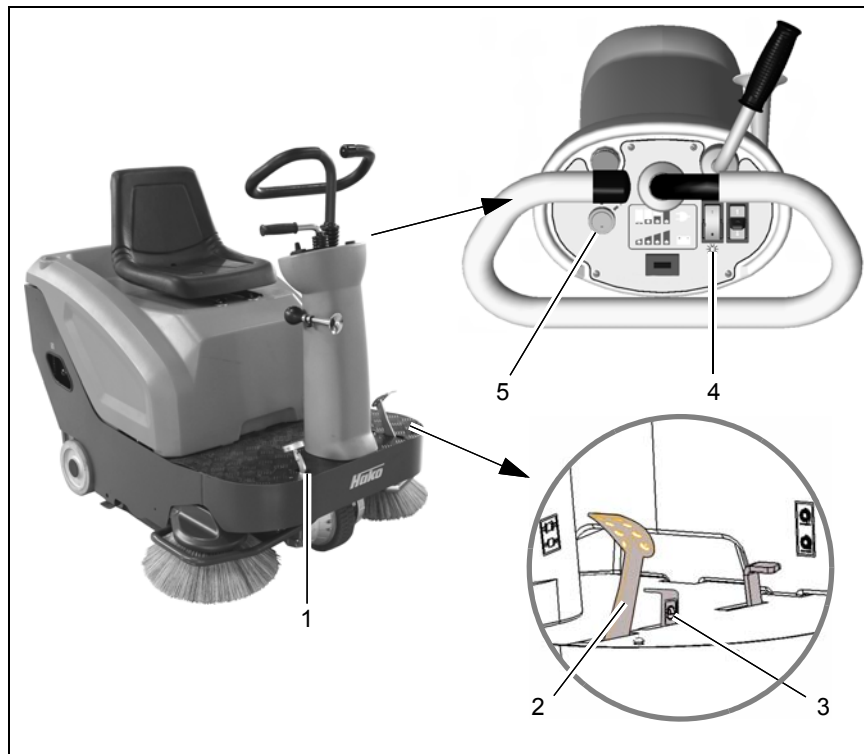

Fig.11
1. Move the accelerator (Fig. 11/1) slowly to its zero setting. The vehicle slows down to a stop.
If this braking effect is insufficient, you can also apply the service brake (Fig. 11/2) to decelerate more quickly.
2. Apply the parking brake (Fig. 11/3) to its end position and lock in place.
3. Switch off the sweeping functions with the button (Fig. 11/4).
4. Switch the vehicle off with the key switch (Fig. 11/5).